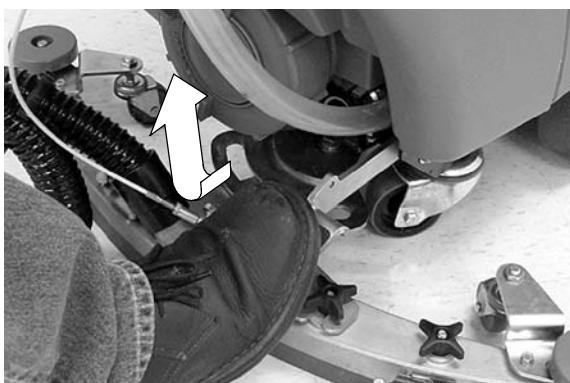

FIG. 17
5. Lower the scrub head to the floor by stepping on the scrub head lift pedal as shown (Figure 17).